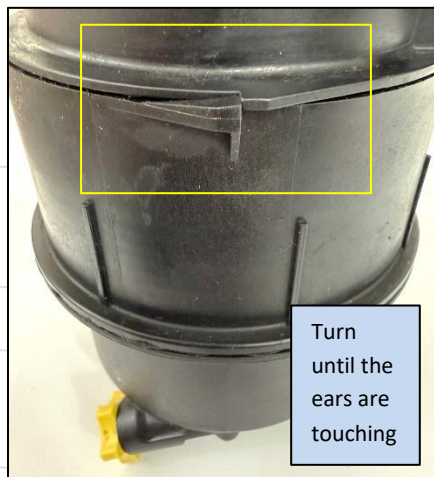

Figure 18: Fuel Module Locking Tab
9. **Install the cap by turning clockwise until it reaches the locking tab (Figure 18)**
- c. **If you try to tighten the cap past the lock tab shown in Figure 18, you may crack the housing and cause an air leak on the suction side of the supply pump.**